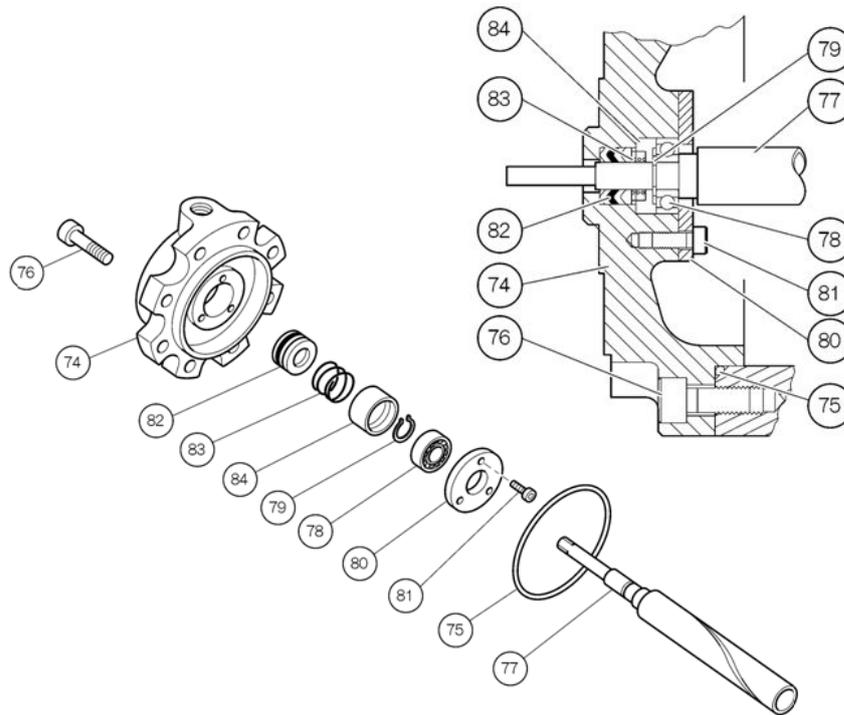

Figure 5-18 Unloader Cover Block
- c) Sufficiently apply oil on the unloader cover [74], and install the V-ring set [82] in it. One of the rings of the V-ring set (i.e., dark colored one) is made of rubber to improve the sealing performance, and is placed as the second item from the outside as shown in Figure 5-18.